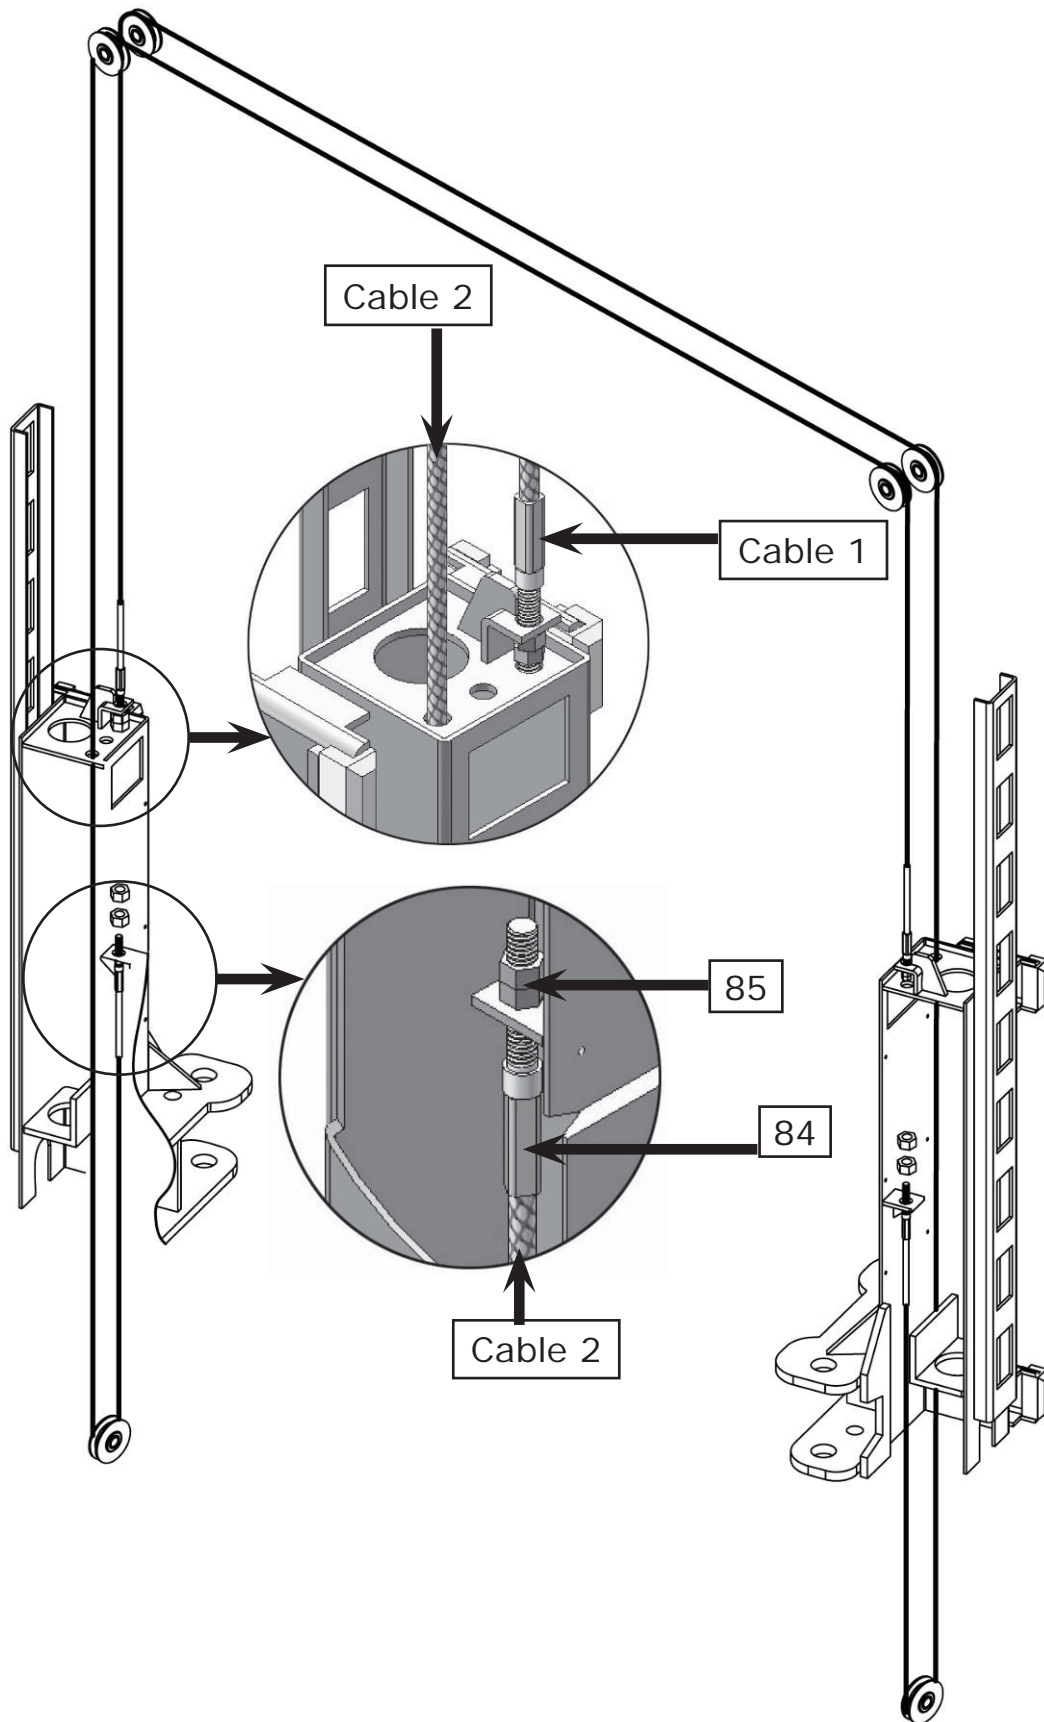

Fig. 23
2.2 Connecting cable for high setting (See Fig. 23).